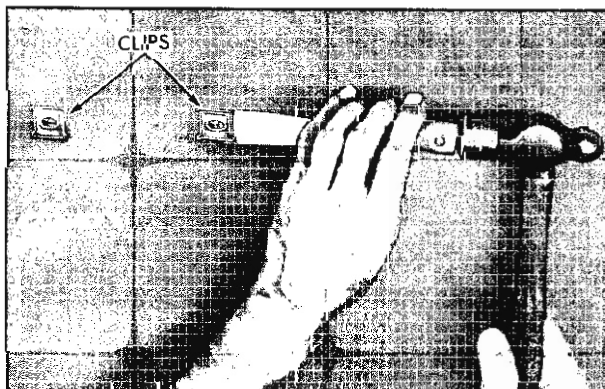

Fig. 15-3 Removing Clip
1. Insert sharp edge of flat-bladed tool, such as a putty knife, under edge of clip and hammer tool until base of clip is cut approximately half-way through (Fig. 15-3) then disengage clip from hole.